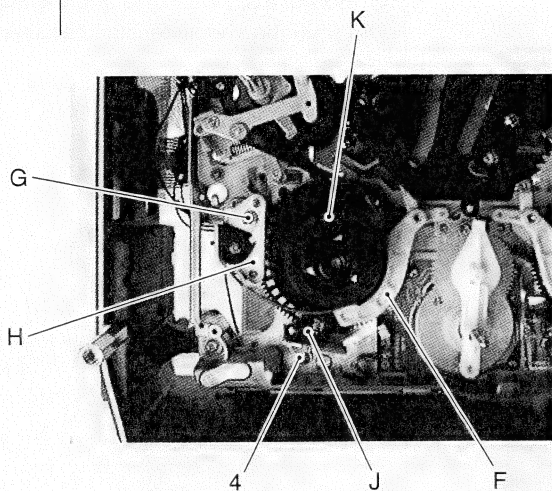

Fig. 2-6-16
6. Remove supply brake arm assembly F by lifting it (see Fig. 2-6-16).
7. Remove E-washer G then remove band holder bracket assembly H (see Fig. 2-6-16).
8. Remove the screw 4 then remove the SP REEL FG board J (see Fig. 2-6-16).
9. Remove supply reel disk assembly K by lifting it (see Fig. 2-6-16).